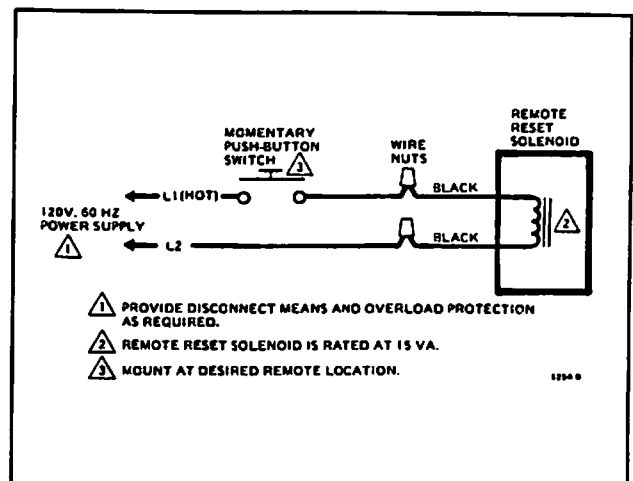

FIG. 20—WIRING DIAGRAM FOR A REMOTE RESET ASSEMBLY, PART NO. 118811B (120 V, 60 HZ ONLY).
6. Using wire nuts, connect the 2 black wires from the remote reset solenoid to a momentary push-button switch and a 120 V, 60 Hz power supply (Fig. 20).